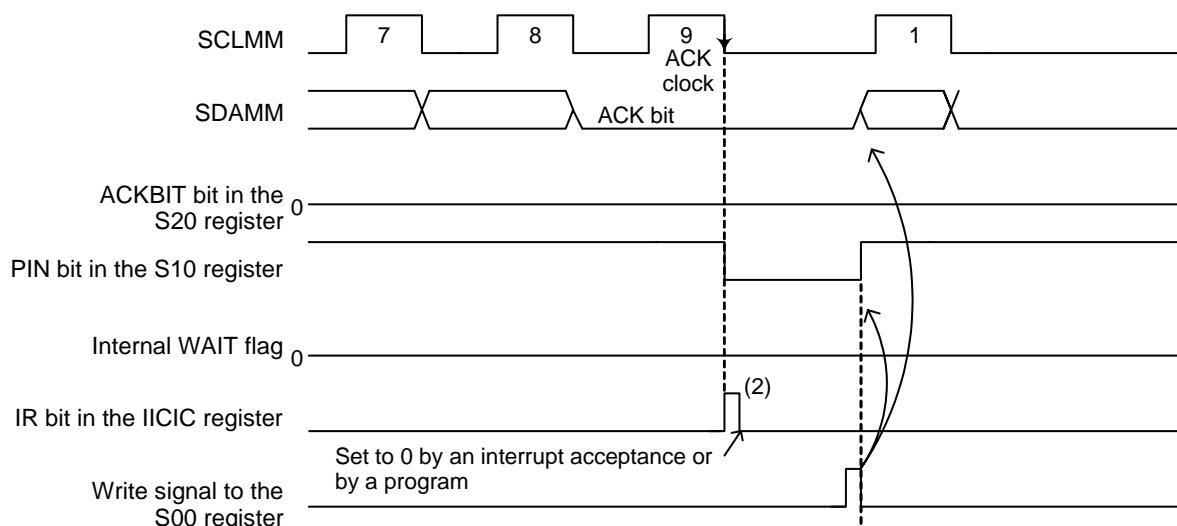

Figure 21.4 Interrupt Request Generation Timing in Receive Mode
Table 21.6 lists interrupt request generation timing and the conditions to restart transmission/reception when receiving data. Figure 21.4 shows Interrupt Request Generation Timing in Receive Mode.
1. See the timing of (1) on the IR bit in the IICIC register in Figure 21.4.
2. See the timing of (2) on the IR bit in the IICIC register in Figure 21.4.